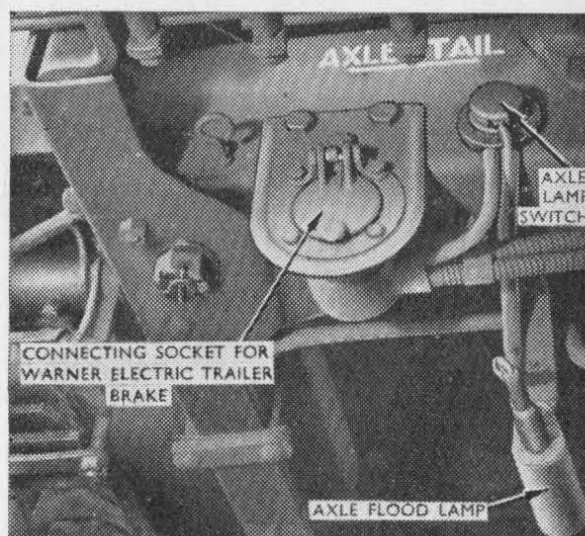

Fig. 4. Rear Axle Flood Lamp Switch.
23. Rear Axle Flood Lamp Switch (Fig. 4).